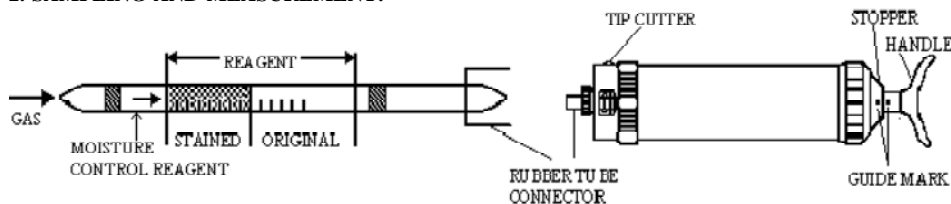

Fig.1
- ① Break both ends of detector tube.
- ② Insert the detector tube into aspirating pump securely as shown in Fig.1. (Arrow mark shall point to the pump.)
- ③ Align the guide marks on the shaft and stopper of the aspirating pump.
- ④ Pull the pump handle at full stroke until it locks and wait for 1.5 minutes or until the completion of sampling is confirmed with the flow indicator of the pump (See descriptions about the flow indicator in the instructions of the pump).
- ⑤ In case of 2 pump strokes, push the handle once more without removing the detector tube from the pump inlet, turn it right or left 1/4 and repeat step ④ once.
- ⑥ In this case, actual concentration is half of the reading value.